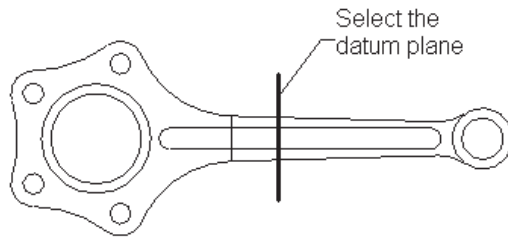

Figure 11-8 Datum plane for the revolved section view
5. Select the plane along which the view will be sectioned, as shown in Figure 11-8. The resulting section view will be placed on the point specified earlier.